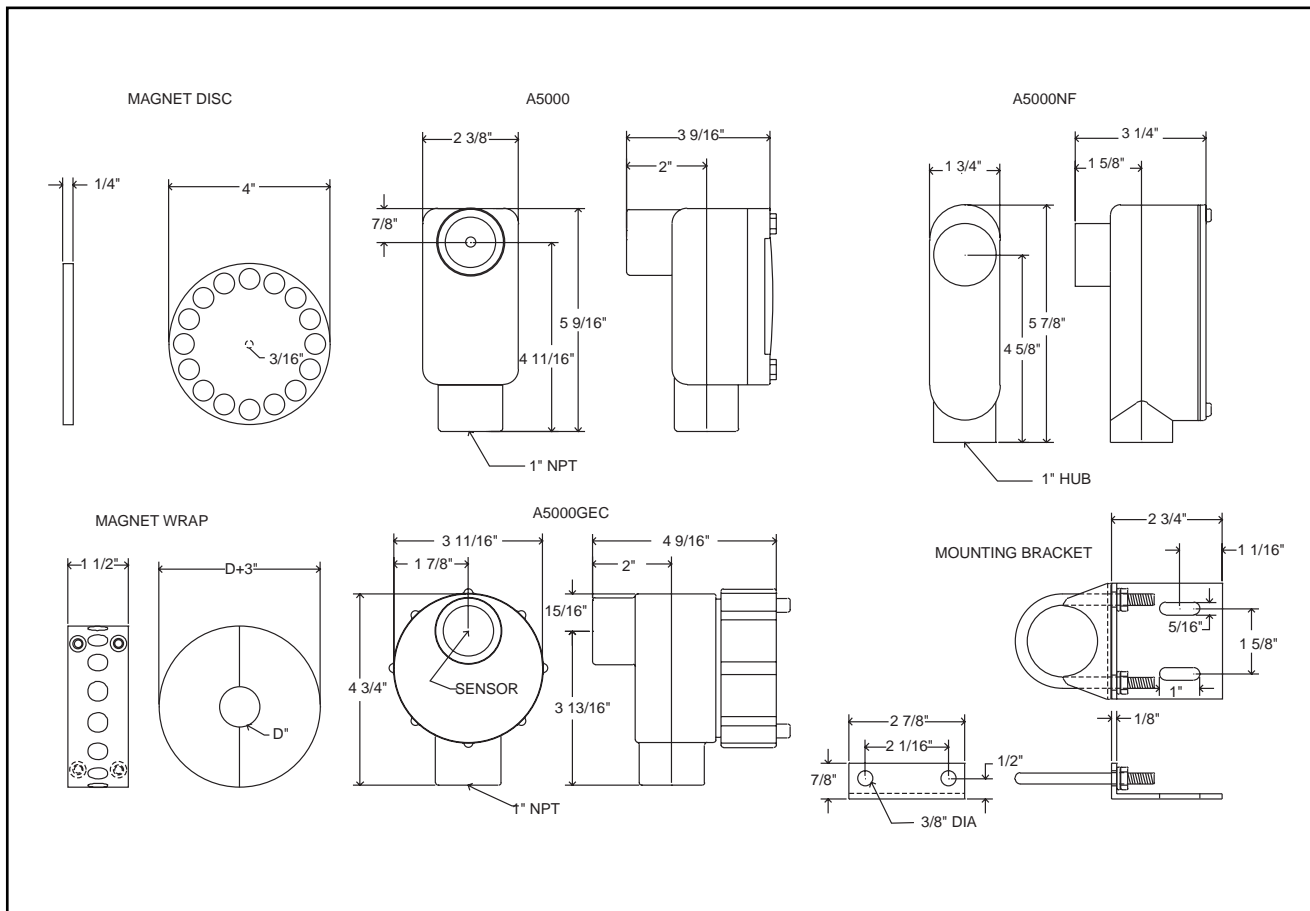

Figure 2
4.1 The A5000GEC zero speed switch housing is UL/CSA listed and certified for Class I, Div. 1 & 2, Group D. Class II, Div. 1 & 2, Group E, F, & G. Class III. (see figure 2, page 3)